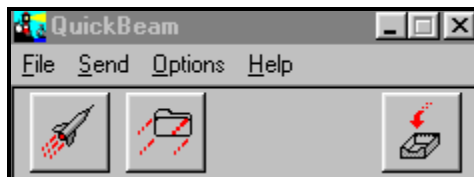

Figure 5-14: The QuickBeam Window
- Click on the desired file, and drag it onto the rocket button in the QuickBeam window, as shown in Figure 5-14 below.